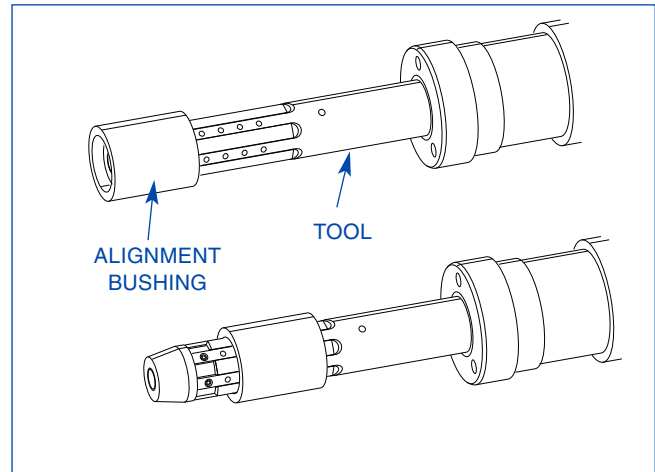

FIGURE 2-17, Alignment Bushing
3. Slide Alignment Bushing on Tool (see Figure 2-17).